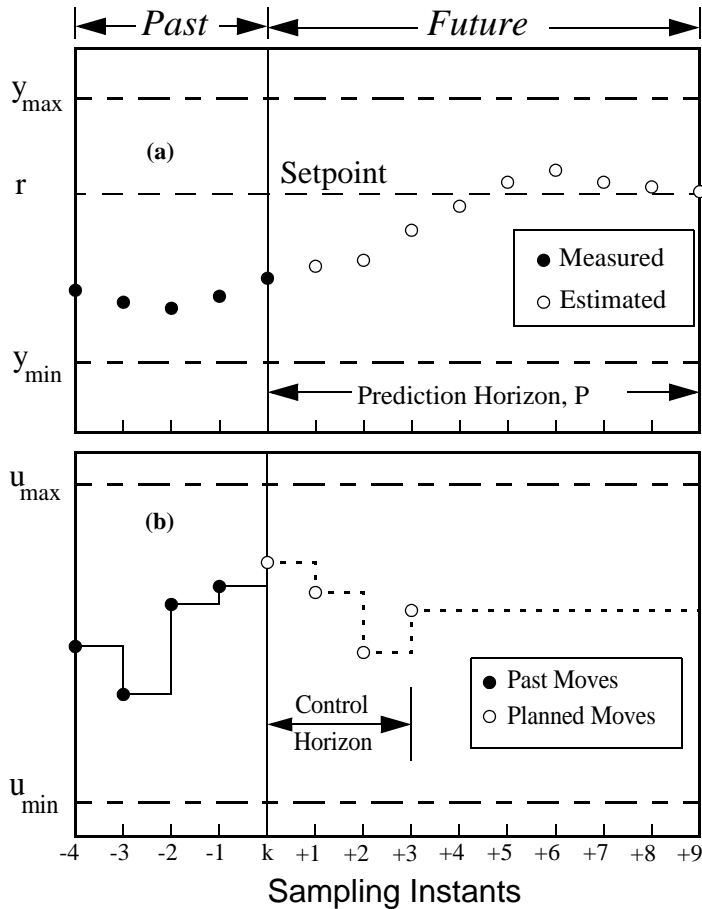

Figure 1-2: Controller State at the k th Sampling Instant
Figure 1-2 shows the state of a hypothetical SISO MPC system that has been operating for many sampling instants. Integer k represents the current instant. The latest measured output, y_k , and previous measurements, y_{k-1}, y_{k-2} ,
..., are known and are the filled circles in Figure 1-2(a). If there is a measured disturbance, its current and past values would be known (not shown).
Figure 1-2 (b) shows the controller's previous *moves*, u_{k-4}, \dots, u_{k-1} , as filled circles. As is usually the case, a *zero-order hold* receives each move from the controller and holds it until the next sampling instant, causing the step-wise variations shown in Figure 1-2 (b).
- 2 *Optimization*. Values of setpoints, measured disturbances, and constraints are specified over a finite *horizon* of future sampling instants, $k+1, k+2, \dots, k+P$, where P (a finite integer ≥ 1) is the *prediction horizon* – see Figure 1-2 (a). The controller computes M moves $u_k, u_{k+1}, \dots, u_{k+M-1}$, where M ($\geq 1, \leq P$) is the *control horizon* – see Figure 1-2 (b). In the hypothetical example shown in the figure, $P = 9$ and $M = 4$. The moves are the solution of a *constrained* optimization problem. For details of the formulation, see Chapter 2, "Optimization Problem".
In the example, the optimal moves are the four open circles in Figure 1-2 (b), and the controller predicts that the resulting output values will be the nine open circles in Figure 1-2 (a). Notice that both are within their *constraints*, $u_{min} \leq u_{k+j} \leq u_{max}$ and $y_{min} \leq y_{k+i} \leq y_{max}$.
In Figure 1-2 (b), $M = 4$ and $P = 9$, and the controller is optimizing the first M moves of the prediction horizon, after which the manipulated variable remains constant for the remaining $P - M = 5$ sampling instants.